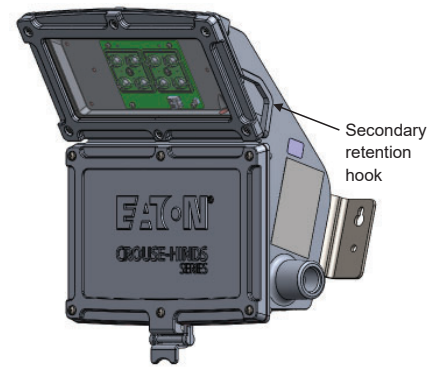

Figure 4
1. Two attachment points for secondary retention are provided, see Figure 4. Either loop secondary retention cable through the attachment or clip on the carabiner provided with SC831 accessory kit.